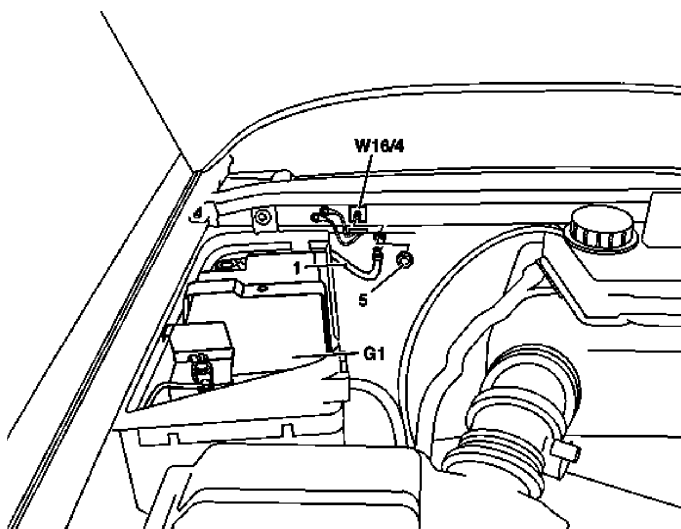

Fig. 1 Battery ground removal
4. Remove nut (5) and disconnect battery ground cable. Insulate terminal of ground cable to avoid unintentional contact between ground cable (1) and ground point (W16/4). Connect quiescent current retention unit if required, **Fig. 1**.